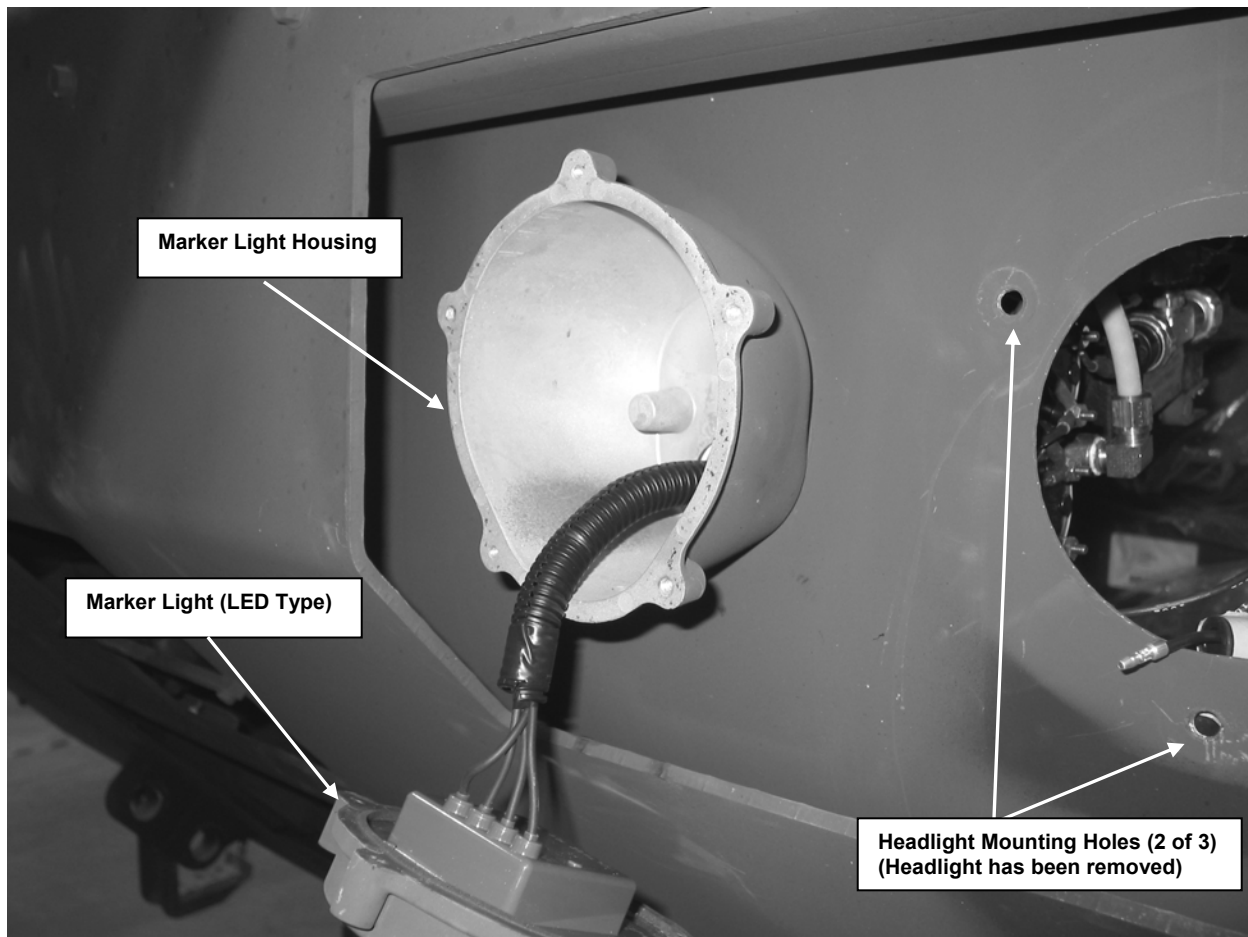
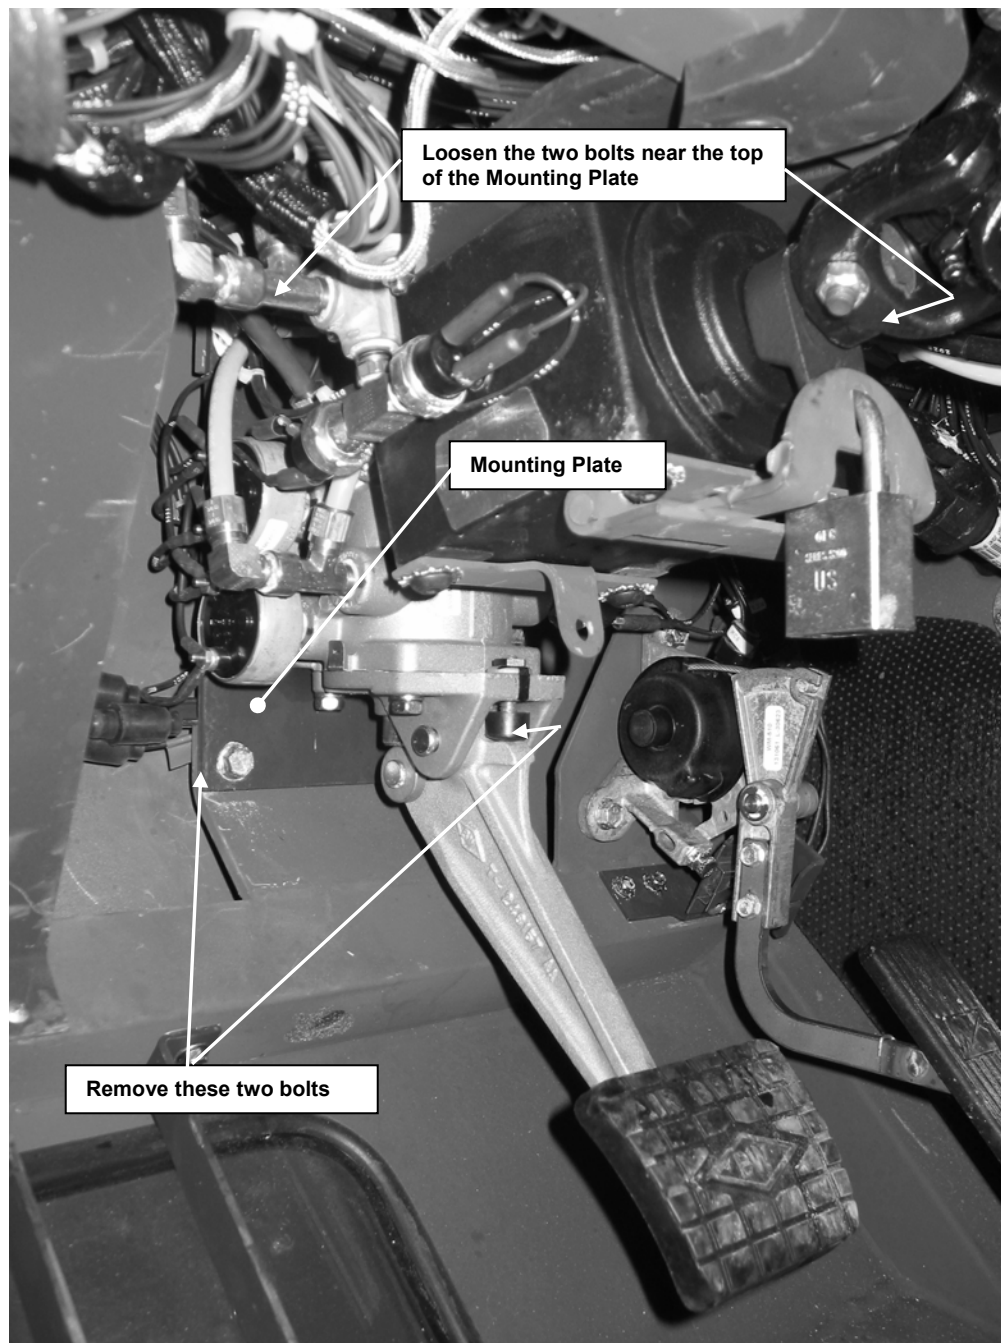

Figure 8. Marker Light and Headlight.
Figure 9. Marker Light access.
- i) Remove the five bolts around the face of the Marker Light (see Figure 8). If the inside of the Marker Light looks like the one in Figure 8, mark and disconnect the connecting wires from the inside of the vehicle. Remove the rubber boots on the end of the four wires. Then, feed the wires out through the hole in the cab and remove the Marker Light. If the inside of the marker light does not look like the one in Figure 8, it will be necessary to also remove the Marker Light Housing. To access the attachment bolts on the driver side, the Mounting Plate, shown in Figure 9, must be detached from the cab. Four bolts are used to attach the Mounting Plate, two on top and two on the bottom. The two on the top only need to be loosened. Once they are loose and the bottom two bolts are removed, the Mounting Plate will slide downward and enable it to be moved out of the way. It may be necessary to remove other wires. Mark and remove the wires as necessary to access the bolts. **Note:** No instruction is provided later in this manual to re-install wires that are not marked.